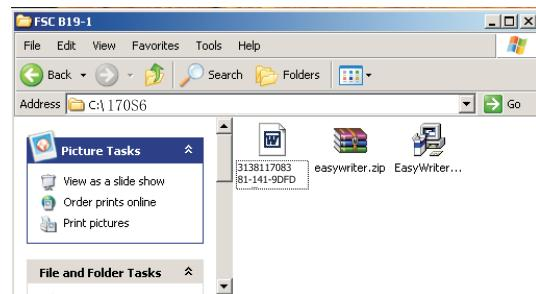

Fig. 5
Step 5 : Copy the hex file to C:\200W6 as shown in Fig. 5 .